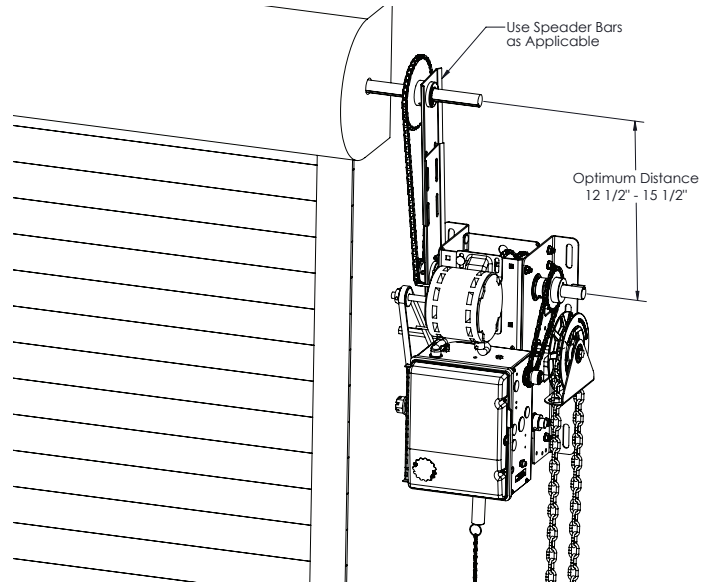

FIGURE 2
- A The operator should generally be installed below the door shaft, and as close to the door as possible. The optimum distance between the door shaft and operator drive shaft is between 12-1/2" - 15-1/2" (Figure 2)